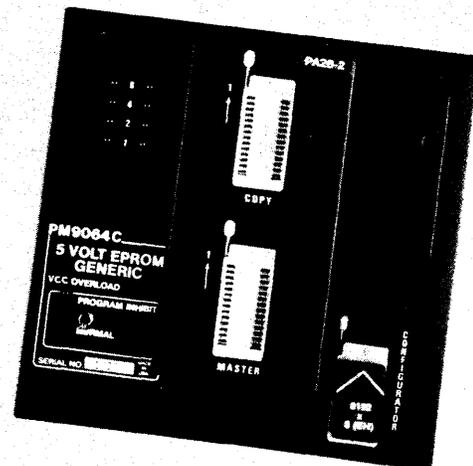

Figure 3-3. Generic Module
Generic modules (see Figure 3-3) are designed to program all PROM types of a particular manufacturer. Adapters are used to conform to specific pinouts and configurators used to allow the control unit to automatically accommodate different sizes and types of PROMs (e.g., 512x4, or 1024x8). The polarity of unprogrammed PROM locations and the PROM type (bipolar or MOS) are also contained in the configurator (refer to the Pro-Log Price List/Short Form Catalog or the Personality Module Wall Chart for specific pinout adapter and configurator types for particular PROM types).
Signals are passed from the base module (see Figure 3-4) to the pinout adapter (see Figure 3-5) via two 25-pin "D" type connectors; the same type used to connect the personality module to the control unit. The configurator (see Figure 3-6) is mounted via a ZIF socket located on the bottom right of the module mounting plate. The configurator must be mounted as shown in Figure 3-3 for the module to function properly. It should also be the proper size and type (e.g., 2048x8(H) for 2716).